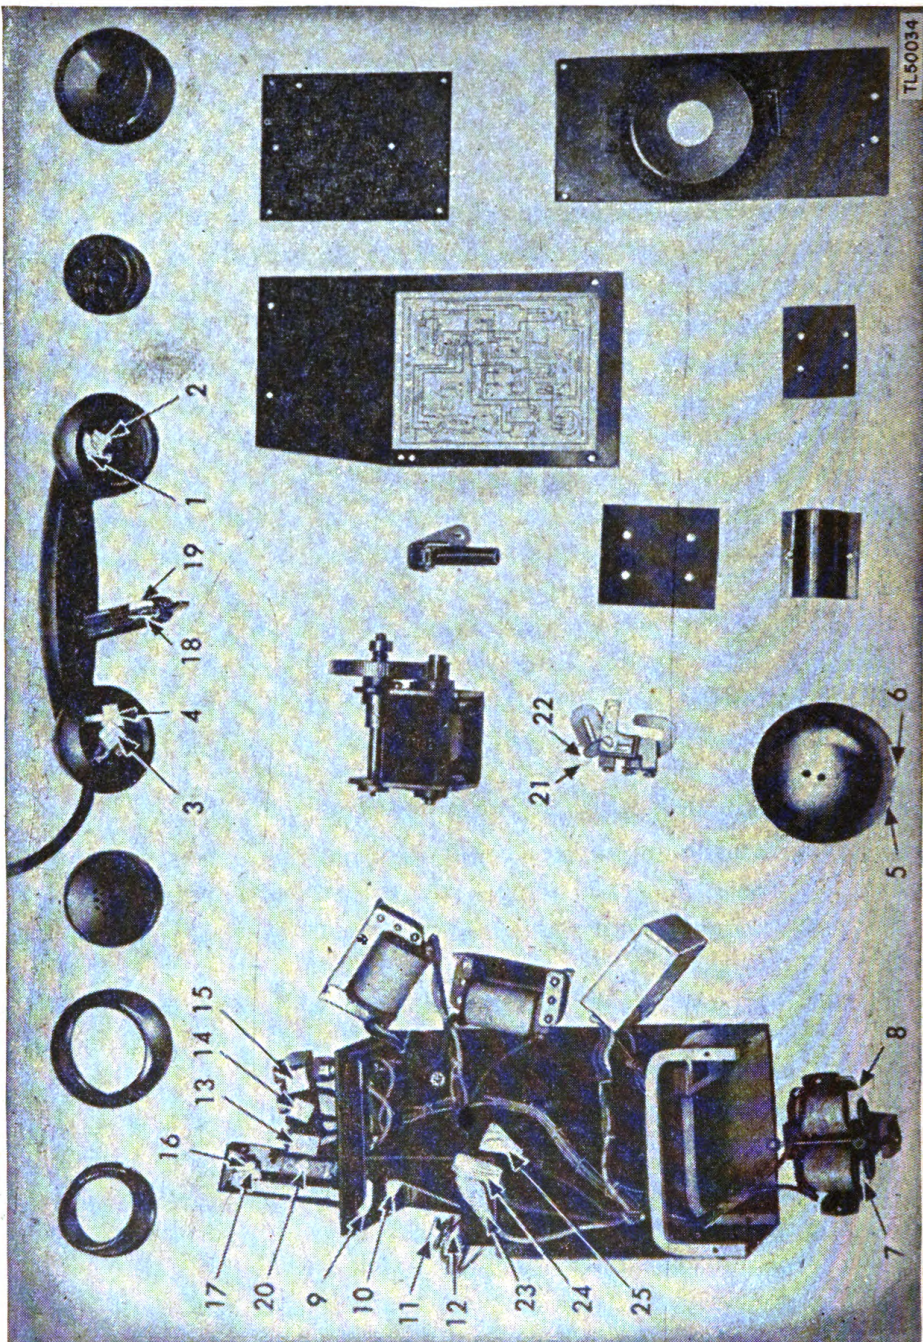

Figure 23. Telephone EE-8-A, disassembled and masked (case and generator magnets not shown).
- (22) Remove the screws holding Coils C-105 and C-158 to the chassis and remove the coils. DO NOT UNSOLDER THE LEADS.
- (23) Remove the two screws from the generator spring pack, and take off the spring pack.
- (24) Remove the four screws from the top of the generator.
- (25) Remove the two lower screws from each side plate of the generator.
- (26) Remove the bottom field plate and the magnets. (*Generator GN-38 only*).
- (27) Remove the two screws from the handset lever switch, and lift out the handset switch assembly. DO NOT UNSOLDER THE LEADS.
- (28) Remove the receiver cap, and take out the receiver unit.
- (29) Remove the transmitter cap, and take out the transmitter unit.
- (30) Tighten all loosened screws where electrical contact is made.
- (31) Clean all dirt, dust, rust, fungus, oil, grease, etc., from the equipment.
c. MASKING. Cover the following parts with masking tape. (1) The electrical contact points on the receiver (fig. 23 (1) and (2)) and on the transmitter (fig. 23 (3) and (4)).
(2) The two points where the clapper strikes the gong (fig. 23 (5) and (6)).
(3) The core contacts on the ringer coils (fig. 23 (7) and (8)).
(4) The battery contacts (fig. 23 (9), (10), (11), and (12)).
(5) The jack holes (fig. 23 (13), (14), and (15)).
(6) The spring contacts of the lever switch and handset switch (fig. 23 (16), (17), (18), and (19)).
(7) The opening below the screw switch (fig. 23 (20)).
(8) The contact points on the generator spring pack (fig. 23 (21) and (22)).
(9) The spade terminals of the three leads to the generator (fig. 23 (23), (24), and (25)).